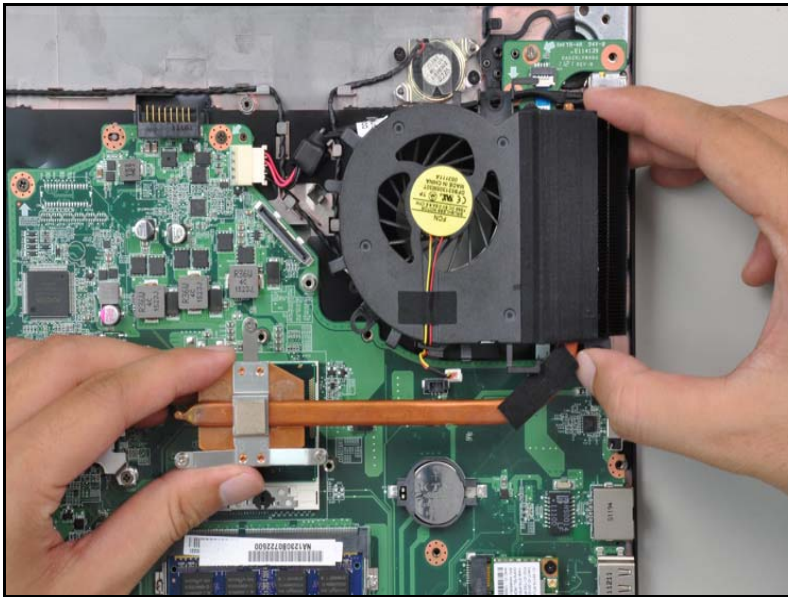

Figure 3-26. Thermal Module Removal
3. Remove the thermal module from the mainboard as shown in Figure 3-26.